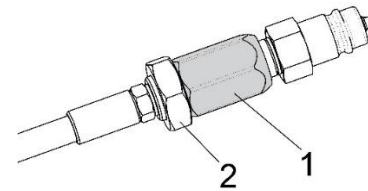

Figure 14: Adjusting the speed of offsets
6.2.3 Adjusting the speed of offsets (Figure 14)